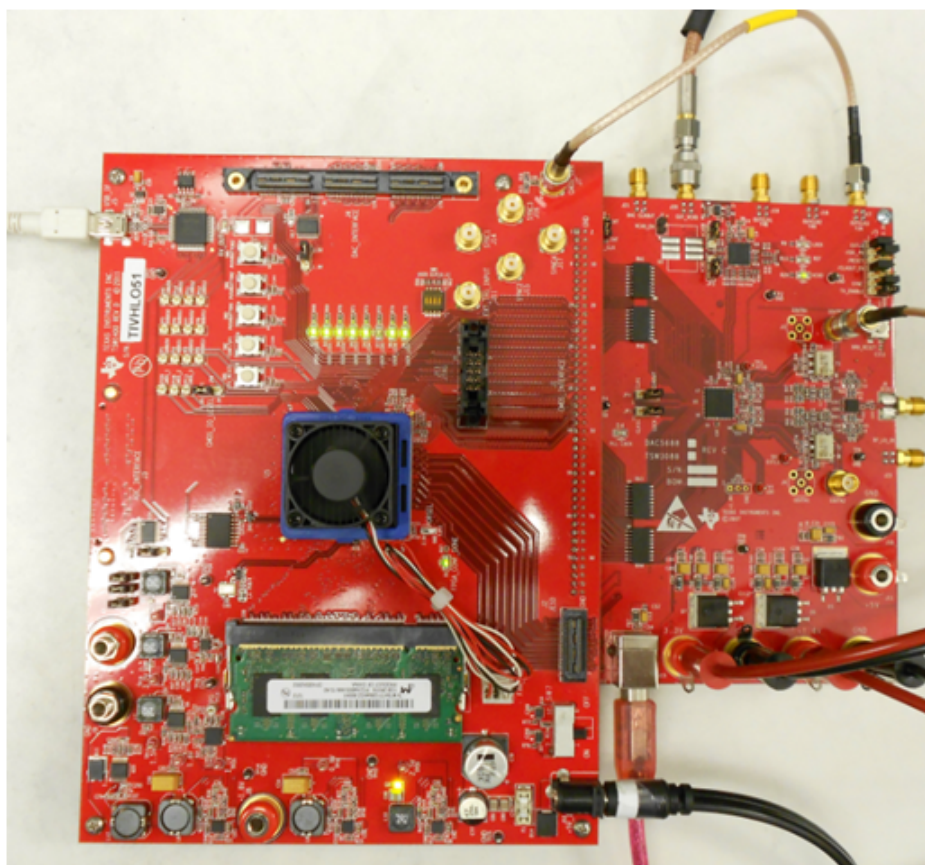

Figure 16. TSW1400EVM Interfacing to the CMOS Connectors of a DAC5688EVM
- The TSW1400 EVM connected to the CMOS connectors of the DAC5688EVM is shown in Figure 16.